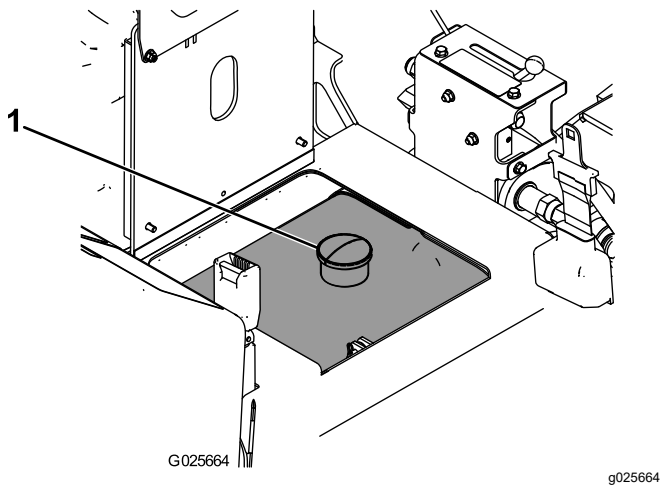

Figure 13
3. Remove the fuel cap (Figure 13).